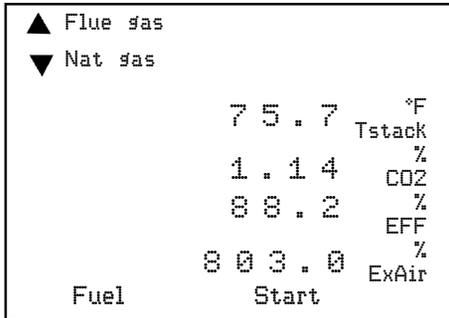

fig 6
- ✓ Flue Gas Measuring Mode Displayed (fig. 6)